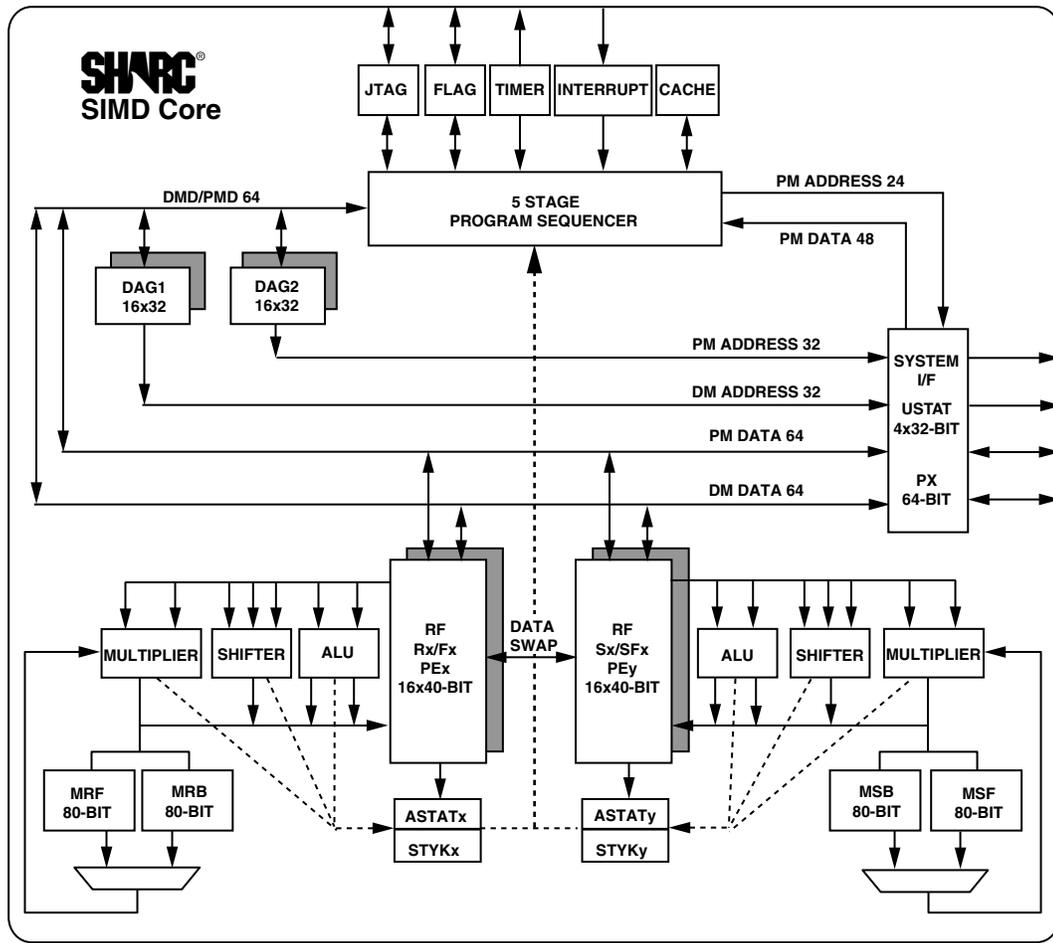

Figure 2. SHARC Core Block Diagram
The ADSP-2147x is code compatible at the assembly level with the ADSP-2146x, ADSP-2137x, ADSP-2136x, ADSP-2126x, ADSP-21160, and ADSP-21161, and with the first generation ADSP-2106x SHARC processors. The ADSP-2147x shares architectural features with the ADSP-2126x, ADSP-2136x, ADSP-2137x, ADSP-2146x, and ADSP-2116x SIMD SHARC processors, as shown in Figure 2 and detailed in the following sections.
The ADSP-2147x features an enhanced Harvard architecture in which the data memory (DM) bus transfers data and the program memory (PM) bus transfers both instructions and data (see Figure 2). With its separate program and data memory buses and on-chip instruction cache, the processor can simultaneously fetch four operands (two over each data bus) and one instruction (from the cache), all in a single cycle.